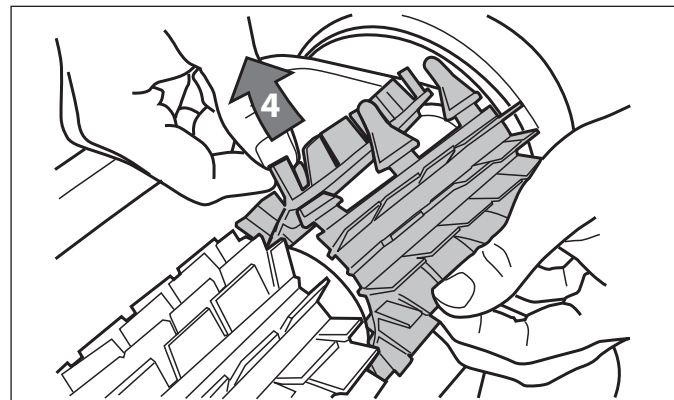

Figure 33. Pull Tabs Through Each Slot
4. Thread each tab into the slot provided and gently feed it through until the heel comes out at the other side of the slot. Refer to Figure 33.